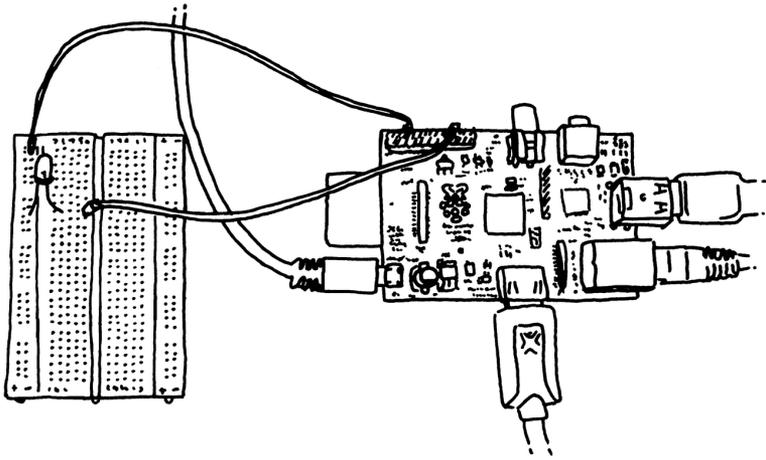

Figure 7-4. Connecting an LED to the Raspberry Pi
3. Now you're ready to connect the LED (see Figure 7-4). Before you do that, it's important to know that LEDs are *polarized*: it matters which of the LED's wires is connected to what. Of the two leads coming off the LED, the longer one is the anode and should be connected to a GPIO pin. The shorter lead is the cathode and should be connected to ground. Another way to tell the difference is by looking from the top. The flat side of the LED indicates the cathode, the side that should be connected to ground. Insert the anode side of the LED into the breadboard in the same channel as the jumper wire from pin 25, which will connect pin 25 to the LED. Insert the cathode side of the LED into the ground power bus.